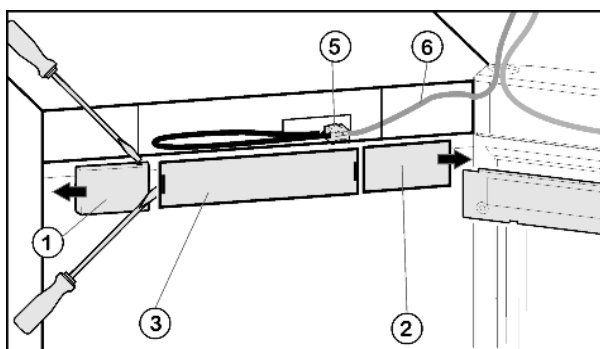

Fig. 4
- ▶ To remove the cover on the handle side Fig. 4 (1): disengage on the right using a flat-blade screwdriver and slide it outwards.
- ▶ To remove the cover on the hinge side Fig. 4 (2): disengage on the left using a flat-blade screwdriver and slide it outwards.
- ▶ Remove the front panel Fig. 4 (3) using a flat-blade screwdriver.
- ▶ Remove contact and disconnect plug connector Fig. 4 (5).
- ▶ Detach grey cable Fig. 4 (6) from the guide.
- Re-connect the plug connector Fig. 4 (5).
- Re-fit the cover Fig. 4 (3).
- Turn the cover Fig. 4 (2) 180°, attach and engage it on the hinge side.